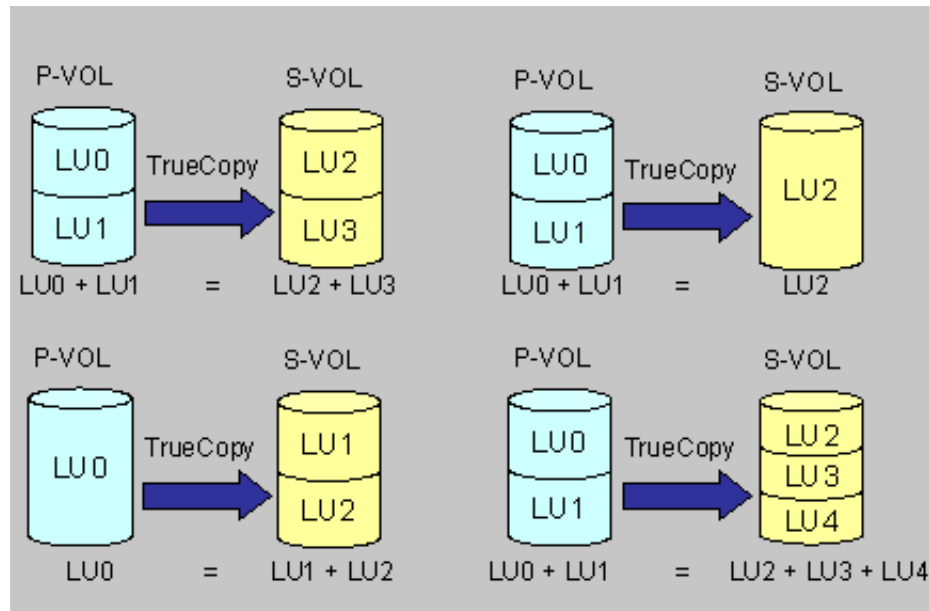

Figure 3-1: Capacity Same, Number of LUs Different
- P-VOL and S-VOL capacities must be equal, though the number of LUs composing them (unified LUs) may differ, as shown in Figure 3-1.